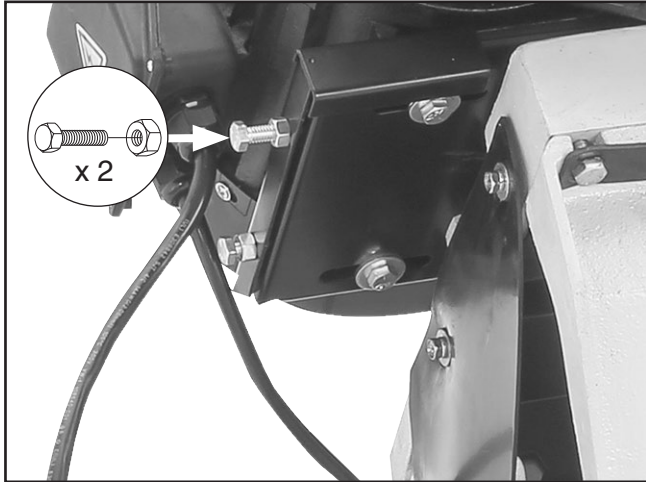

Figure 50. Belt tension fasteners.
- Loosen hex nuts shown in **Figure 50**, then tighten hex bolts to push motor toward spindle pulley and slacken V-belt.